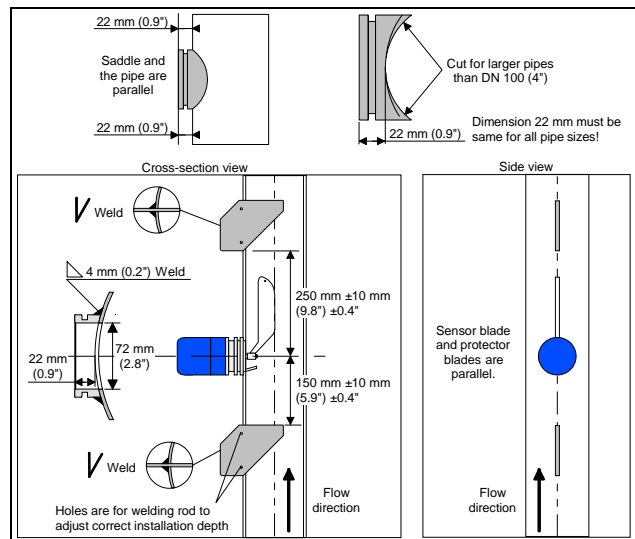

Figure 2. Mounting of the saddle and protector blades.
- ❑ Check that height of the saddle is 22 mm (0.9") for standard blade (fig. 2). Others blades are using 42 mm (1.7").
- ❑ Check that the saddle is welded exactly parallel to process pipe (fig. 2).
- ❑ Check that the protector blades are welded before and after the sensor unit (fig. 2).
- ❑ Check that the protector blades and the sensor are parallel (fig. 2).
- ❑ Check that the sensor blade points to the downstream of the flow (See the label on the sensor) (fig. 2 & 3).